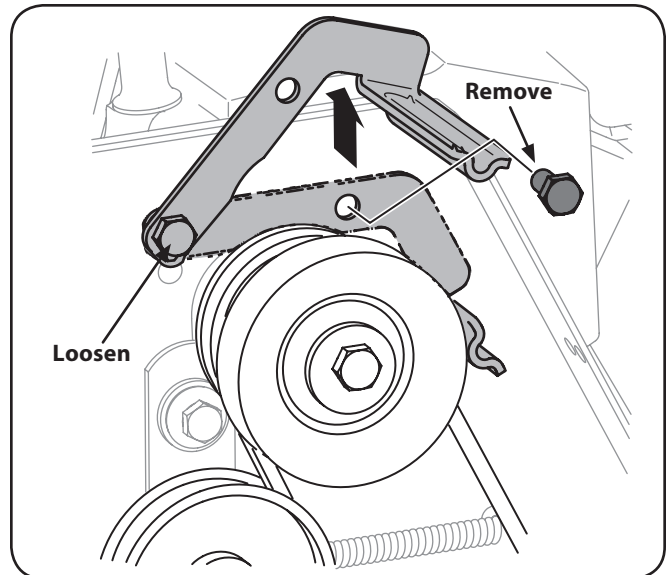

Figure 7-3
4. Loosen the bolt shown in Figure 7-3 securing the belt keeper bracket and remove the other bolt. Push the belt keeper bracket up off the engine pulley. See Figure 7-3.